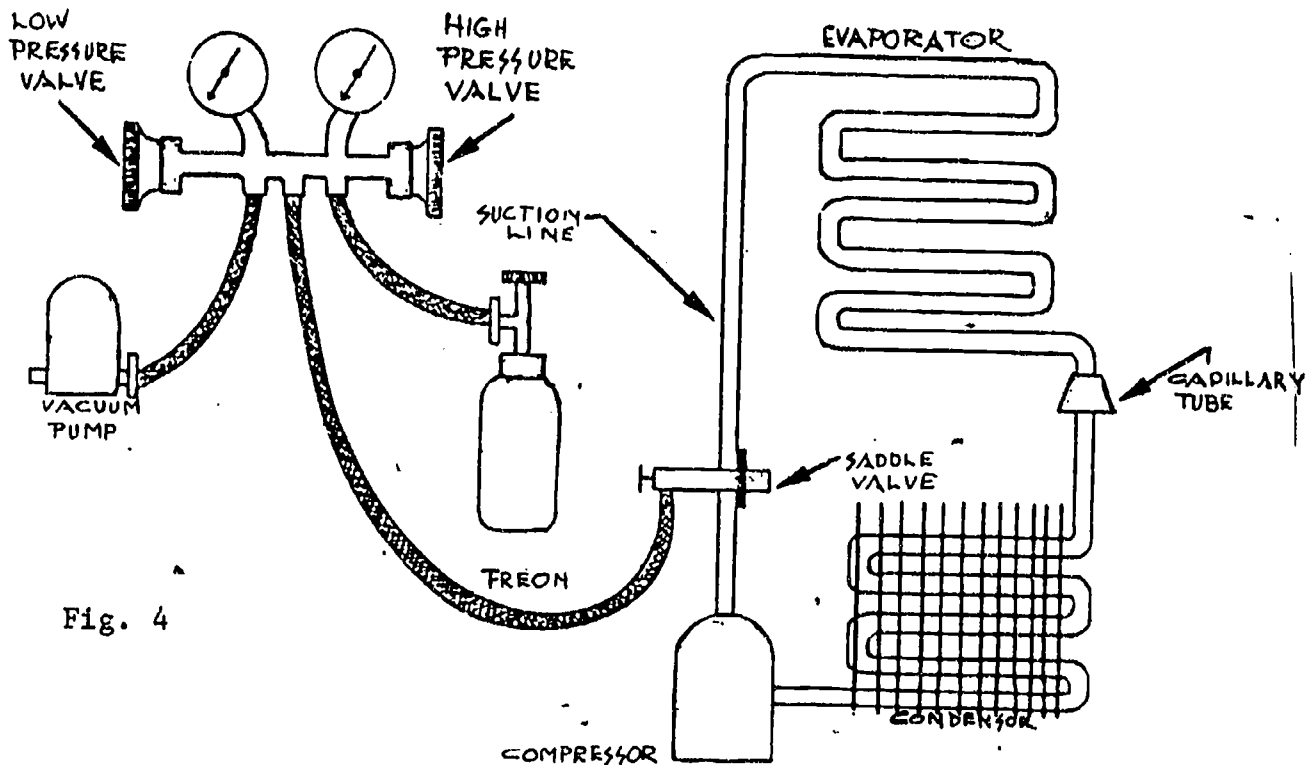

Fig. 4
Figure 4 shows the hook-up for purging, evacuating and charging a refrigeration unit.
- 2: Hook up manifold as shown in Figure 4, with all valves in the closed position. Do not hook up vacuum pump at this time.